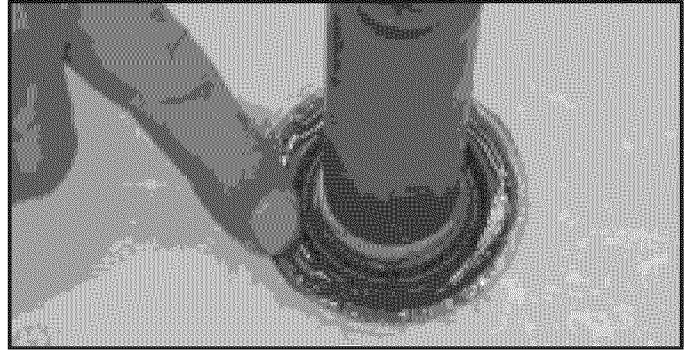

FIGURE 20
32. Push Tub Seal into place using the Seal Press Tool, and hammer until it bottoms out. Add a bead of Pliobond Adhesive to top edge of seal and tub (spread out with finger). See *Figure 20*.